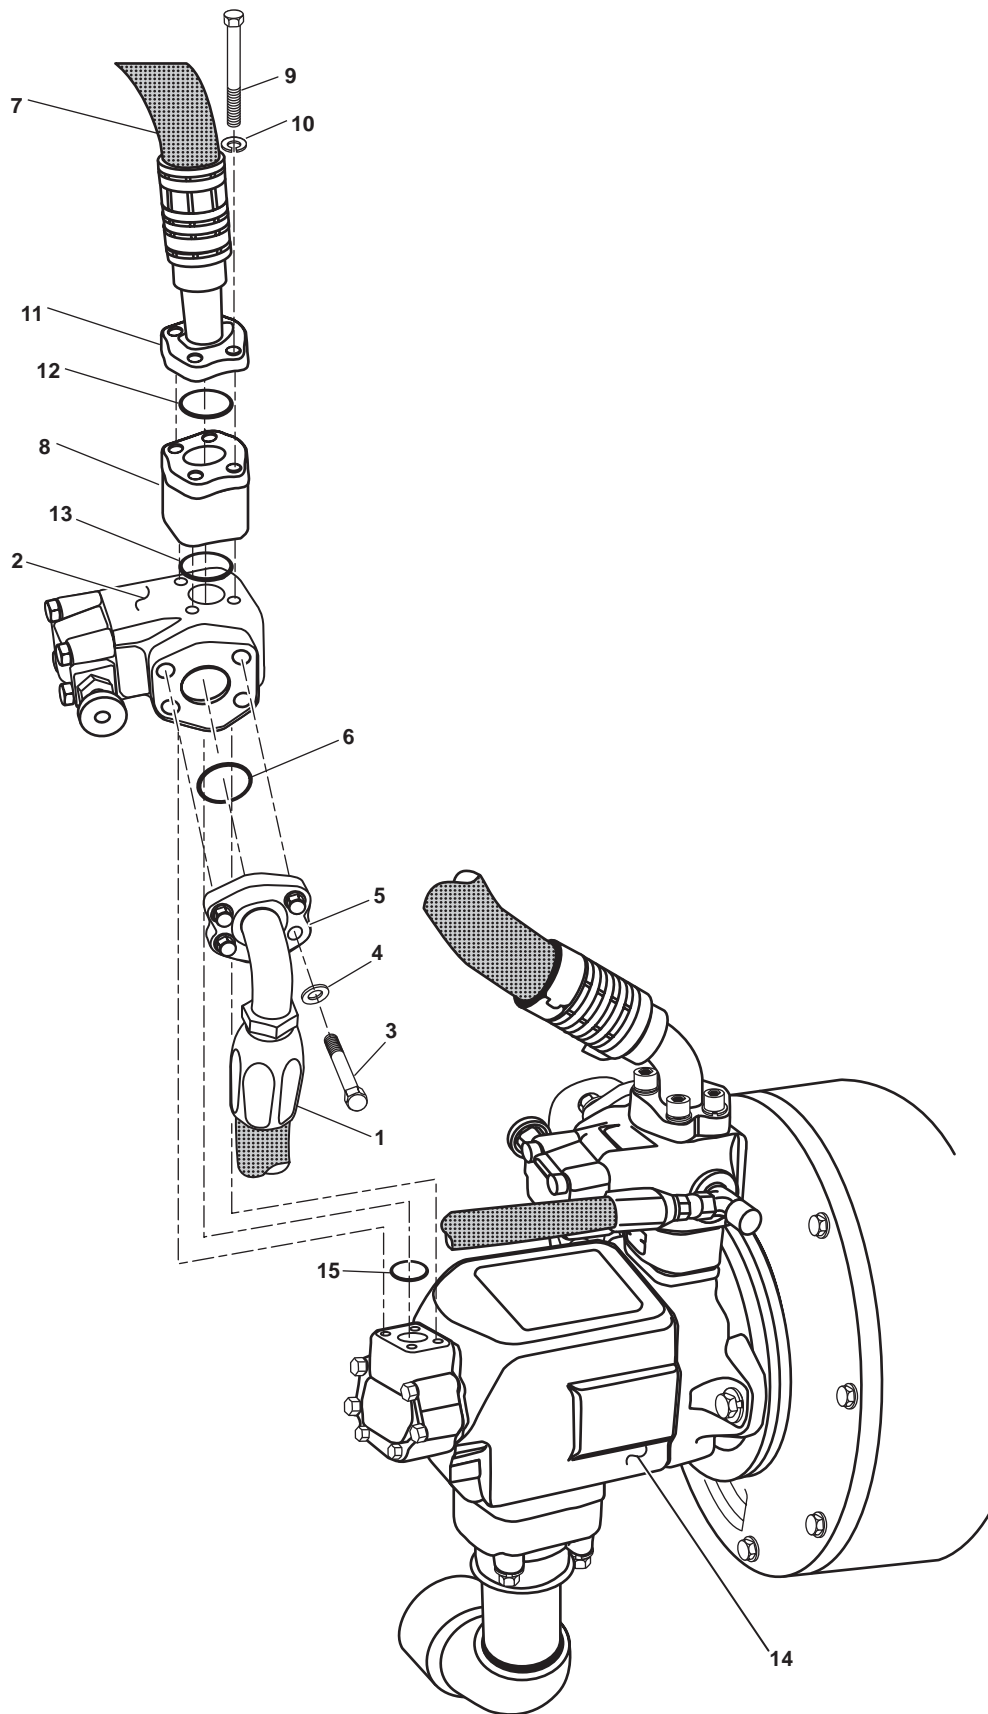

Figure 1. Hydraulic Pump and Unloading Valve
1. Remove the main pressure hydraulic fluid dump hose (figure 1, item 1) from the unloading valve (figure 1, item 2) by removing the four bolts (figure 1, item 3) and the four washers (figure 1, item 4).
2. Separate the split flange halves (figure 1, item 5) and remove the main pressure hydraulic fluid dump hose (figure 1, item 1). Allow any hydraulic fluid to drain into the suitable drain pan.
3. Cover the end of the main pressure hydraulic fluid dump hose (figure 1, item 1) with a clean rag to prevent dirt and foreign material from entering the hydraulic system. Place an identification tag or label on the main pressure hydraulic fluid dump hose.
4. Remove the O-ring (figure 1, item 6) from the unloading valve (figure 1, item 2). Discard the O-ring.
5. Remove the main pressure hydraulic hose (figure 1, item 7) from the check valve (figure 1, item 8) by removing the four bolts (figure 1, item 9) and the four lockwashers (figure 1, item 10). Discard the lockwashers.
6. Separate the split flange half (figure 1, item 11) and remove the main pressure hydraulic hose (figure 1, item 7).
7. Cover the end of the main pressure hydraulic hose (figure 1, item 7) with a clean rag to prevent dirt and foreign material from entering the hydraulic system. Place an identification tag or label on the main pressure hydraulic hose.
8. Remove the O-ring (figure 1, item 12) from the check valve (figure 1, item 8). Discard the O-ring.
9. Remove the check valve (figure 1, item 8) from the unloading valve (figure 1, item 2). Cover the check valve with a clean rag to prevent foreign material from entering the valve.
10. Remove the O-ring (figure 1, item 13) from the unloading valve (figure 1, item 2). Discard the O-ring.
11. Remove the unloading valve (figure 1, item 2) from the hydraulic pump (figure 1, item 14).
12. Remove the O-ring (figure 1, item 15) from the hydraulic pump (figure 1, item 14). Discard the O-ring.
1. Install a new O-ring (figure 1, item 15) on the hydraulic pump (figure 1, item 14). Lubricate the O-ring with hydraulic fluid.
2. Install the unloading valve (figure 1, item 2) on the hydraulic pump (figure 1, item 14).
3. Install a new O-ring (figure 1, item 13) on the unloading valve (figure 1, item 2). Lubricate the O-ring with hydraulic fluid.
4. Install the check valve (figure 1, item 8) on the unloading valve (figure 1, item 2).
5. Install a new O-ring (figure 1, item 12) on the check valve (figure 1, item 8). Lubricate the O-ring with hydraulic fluid.
6. Install the split flange half (figure 1, item 11) using four new lockwashers (figure 1, item 10) and four bolts (figure 1, item 9). Do not tighten the four bolts.
7. Connect the main pressure hydraulic hose (figure 1, item 7) to the check valve (figure 1, item 8) by inserting the main pressure hydraulic hose between the split flange halves (figure 1, item 11). Tighten the four bolts (figure 1, item 9).
8. Install a new O-ring (figure 1, item 6) on the unloading valve (figure 1, item 2). Lubricate the O-ring with hydraulic fluid.
9. Install the split flange halves (figure 1, item 5) using the four washers (figure 1, item 4) and the four bolts (figure 1, item 3). Do not tighten the four bolts.
10. Connect the main pressure hydraulic fluid dump hose (figure 1, item 1) to the unloading valve (figure 1, item 2) by inserting the main pressure hydraulic fluid dump hose between the split flange halves (figure 1, item 5). Tighten the four bolts (figure 1, item 3).